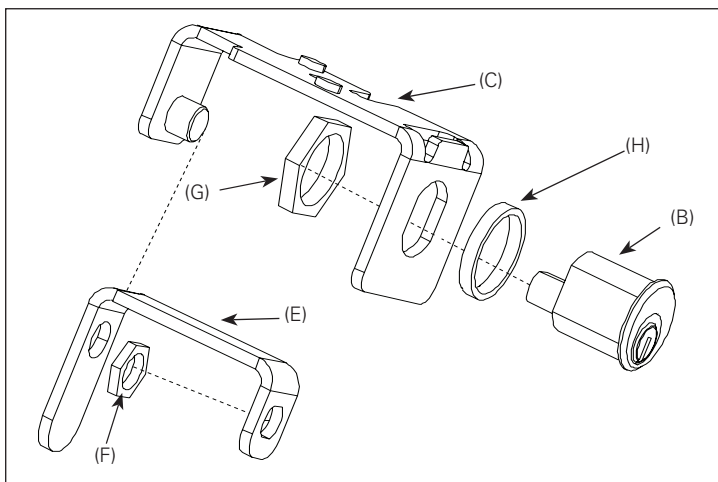

Figure 1. CES keylock contents of kit.
Step 3: Refer to Figures 1 - 4 for assembly orientations. Attach the actuator (E) to the mounting bracket (C) by inserting the pivot pin on the mounting bracket through the hole on the actuator.